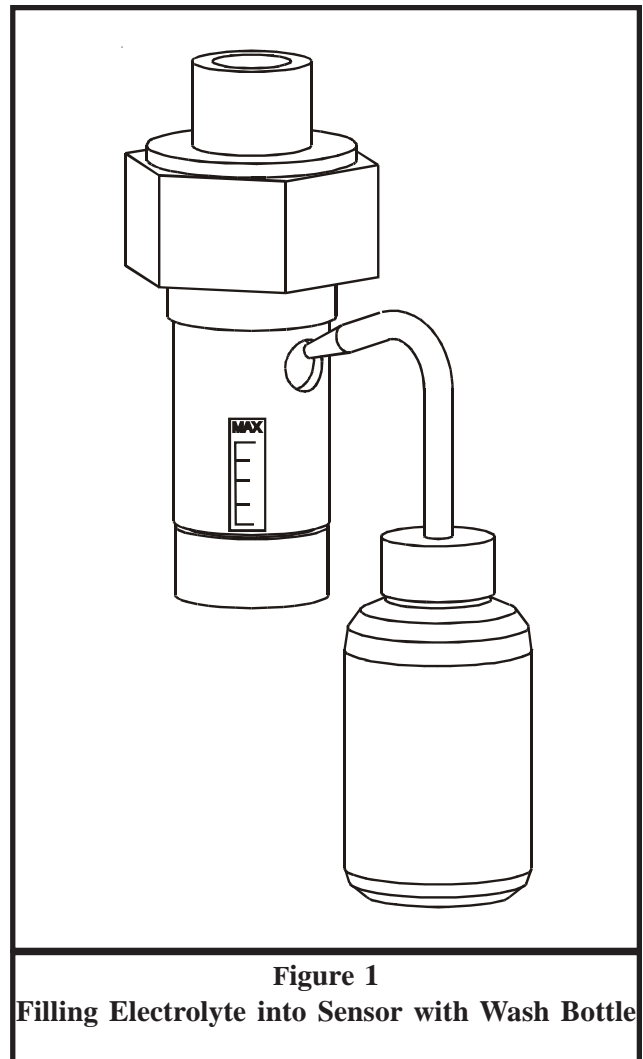

Figure 1
- i. Transfer electrolyte from the plastic wash bottle into the electrolyte supply port (see Fig. 1) until the level is at the maximum level line on the side of the sensor body.